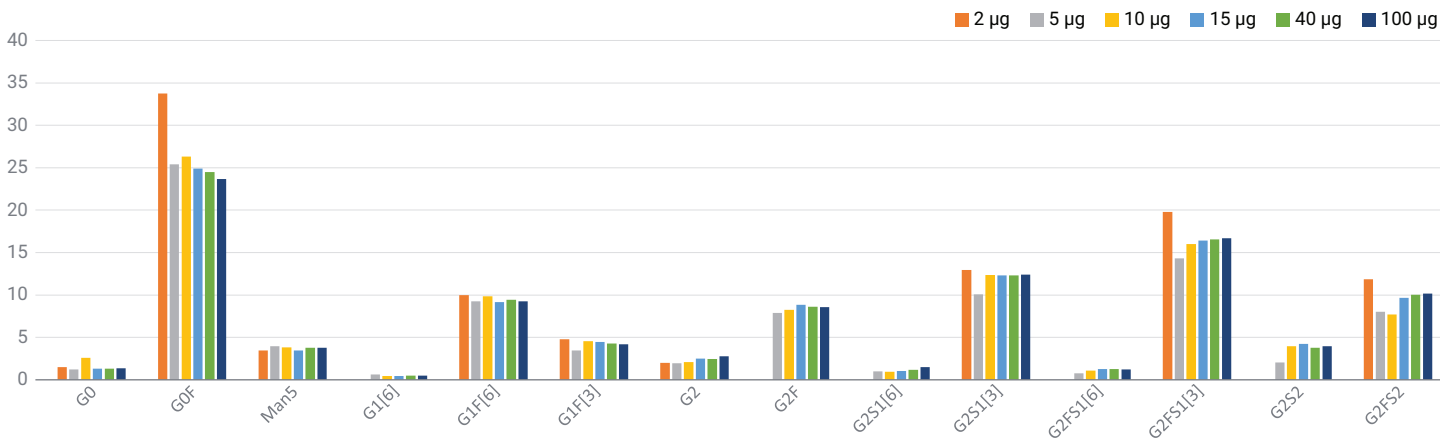

Figure 7. Relative area (%) for Enbrel labeled with InstantPC (1 to 100 µg).
Table 5. Figure 7 relative area (%), SD, and %CV values for (A) CHO mAb, (B) NIST mAb, (C) Rituxan, (D) IgG1, (E) Enbrel, and (F) Orencia labeled with InstantPC (40 µg), n = 3.
The ability of the AdvanceBio kit to take more protein into preparation (40 to 100 µg; Figure 7) and yield higher FLD response was beneficial for detecting less-abundant structural isomers of N-linked glycans.
The recommended starting glycoprotein amount for the AdvanceBio kit is 15 to 40 µg, whereas the recommendation for the GlycoWorks kit it is 15 µg. Figure 7 shows that the AdvanceBio kit can be used for glycoprotein amount starting from as little as 2 µg up to 100 µg